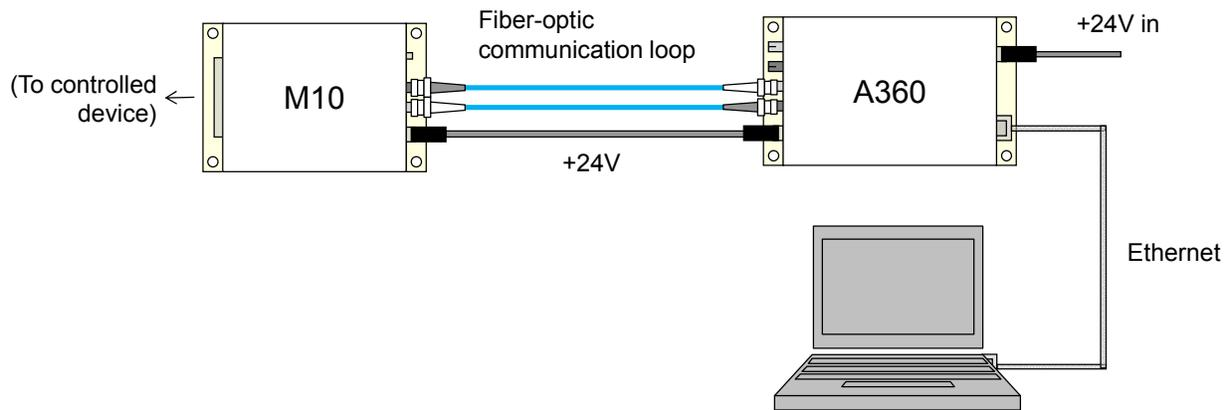

Figure 4. Connecting a single device
- 1) It is simplest to start with a direct connection from your host computer to the A360 using a CAT5 or CAT6 Ethernet cable as shown in figure 4. The network cable can be a patch or a crossover type – the A360 automatically adjusts itself to suit. Later, when you have confirmed reliable communication, then you can move the A360 onto a general local area network if required.